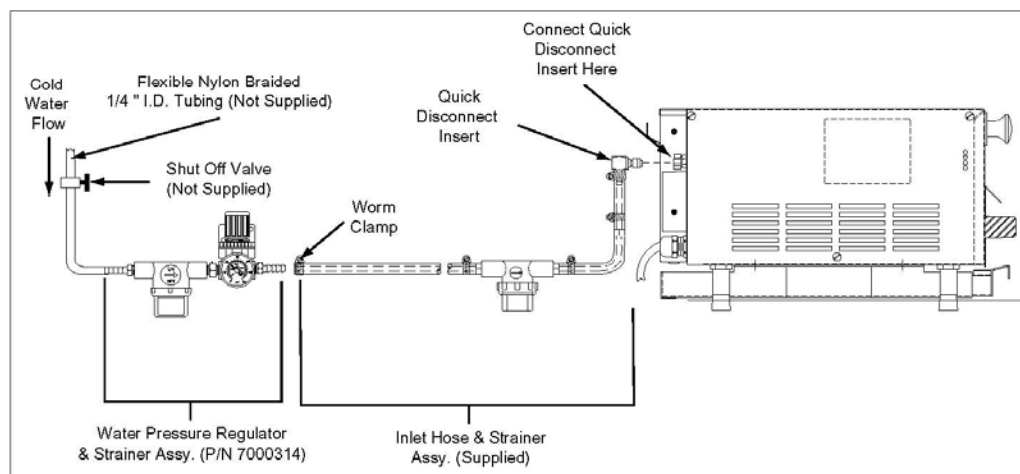

Figure 4. Connecting Water Supply to MS-250/255
These models require a direct cold water hookup. A Water Inlet Hose and Strainer Assembly (Figure 4) is supplied.
1. Turn off the water valve (not supplied) that supplies water to the unit (Figure 4).
2. Connect the 1/4" (6.5 mm) I.D. Flexible Tubing to the outlet side of the Water Pressure Regulator and secure using the worm clamp as shown in Figure 4.
NOTE: A Water Pressure Regulator must first be installed as shown in Figure 4. Failure to do so will result in poor steaming and possible flooding. For a single steamer, use Water Pressure Regulator P/N 7000314. For two adjacent steamers, use Water Pressure Regulator P/N 7000235.
4. Over a bucket, press and hold the white plastic tip on the Quick Disconnect Insert (Figure 4) until good, steady water flow is noted (this will purge all air out of the line). Release and note the pressure on the Water Pressure Regulator gauge. It should read 20-25 PSI. If it reads more or less, adjust the pressure by pulling the black knob upwards and turning it clockwise to increase or counter-clockwise to decrease the water pressure. Push the knob down to lock it in place.
5. Push the Quick Disconnect Insert into the fitting at the rear of the unit until a "click" is heard (Figure 4).